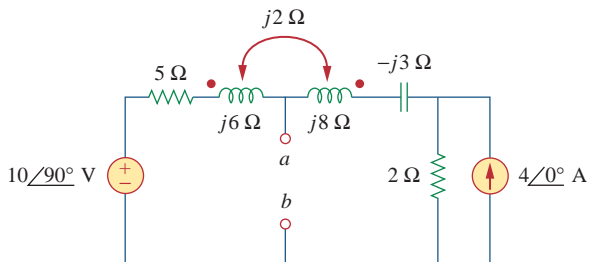

Figure 13.83
13.14 Obtain the Thevenin equivalent circuit for the circuit in Fig. 13.83 at terminals $a-b$.